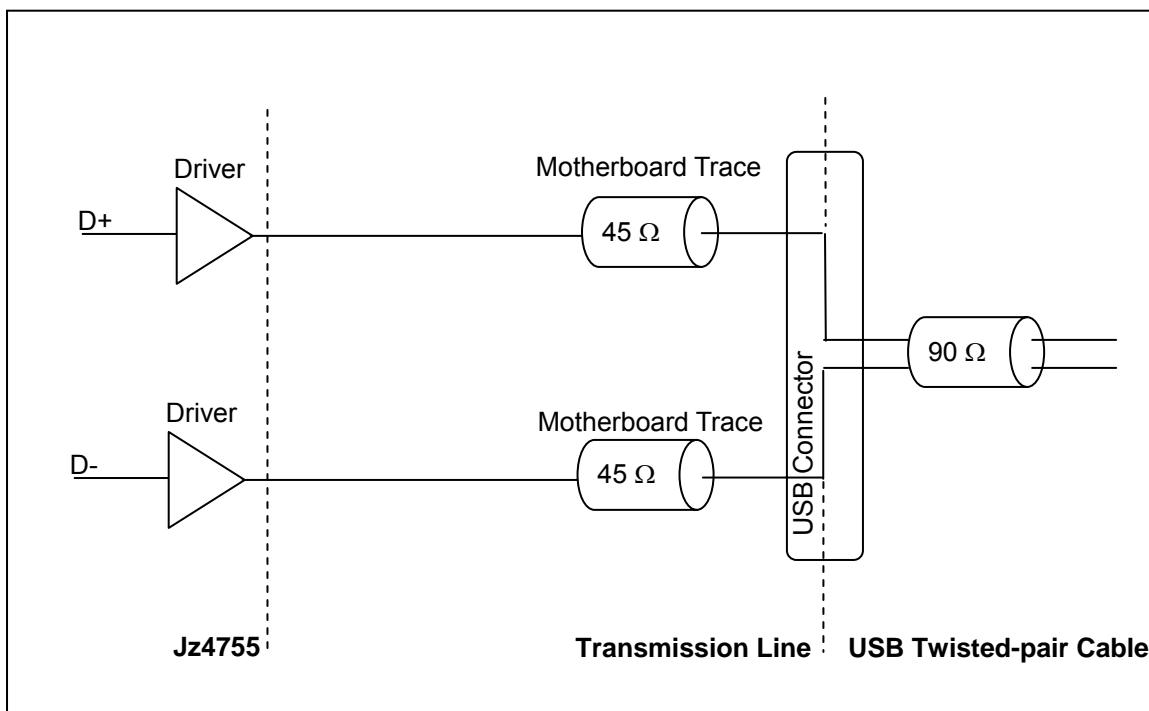

Figure 6-1 Recommend USB Device Schematic
- The trace impedance for the D0± and D1± signals should be  $45\ \Omega$  (to ground) for each USB signal D+ or D-. This may be achieved with 9-mil-wide traces on the motherboard based on the stack-up recommended in Figure 6-1. The impedance is  $90\ \Omega$  between the differential signal pairs D+ and D-, to match the  $90\ \Omega$  USB twisted-pair cable impedance. Note that the twisted-pair characteristic impedance of  $90\ \Omega$  is the series impedance of both wires, which results in an individual wire presenting  $45\ \Omega$  impedance. The trace impedance can be controlled by carefully selecting the trace width, trace distance from power or ground planes, and physical proximity of nearby traces.